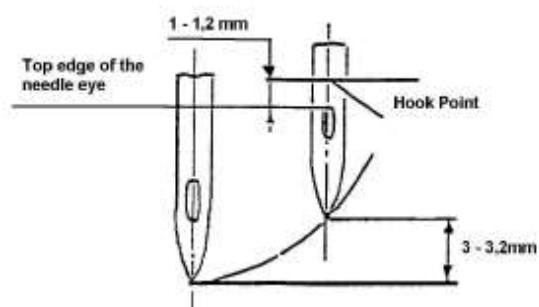

Fig. 11
- b) To adjust the needle height and the hook course. (Fig. 11)